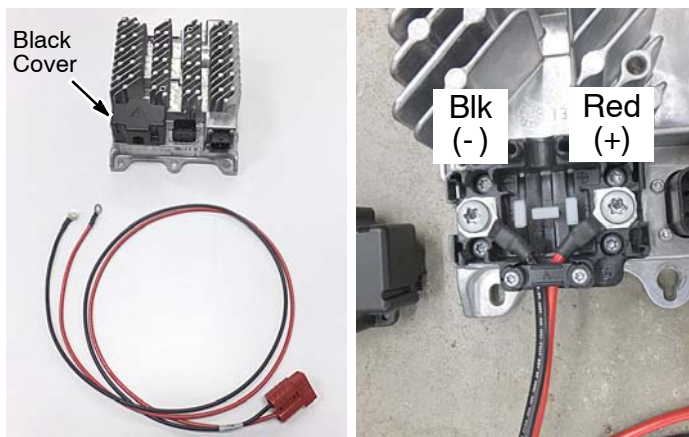

FIG. 21
7. Remove the black cover from new charger and connect the new charger cables to the charger as shown (FIG. 21). Replace cover.